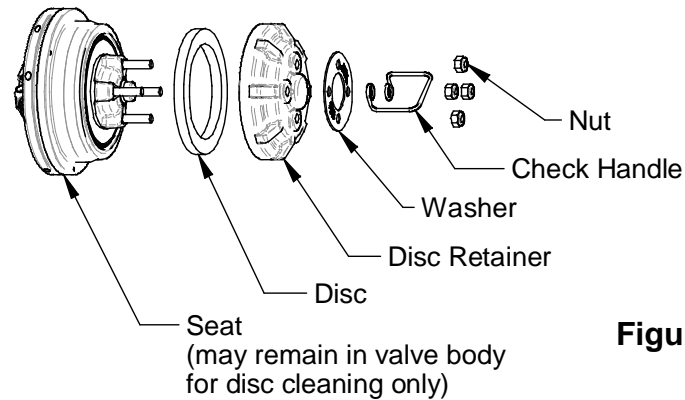

Figure 4
If only cleaning of either check is necessary, simply remove the three reusable (3) locknuts for 2 1/2" & 3" valves / four (4) locknuts for 4" & 6" valves on the black plastic disc retainer (See Figure 4). Remove the check handle and washer and lift the disc retainer and disc out of the body. Rinse the disc with clean water or replace if necessary. The disc may be flipped over for a temporary repair, but should be replaced if damaged. Replace the disc, disc retainer, washer, handle, and locknuts. Do not over tighten locknuts.